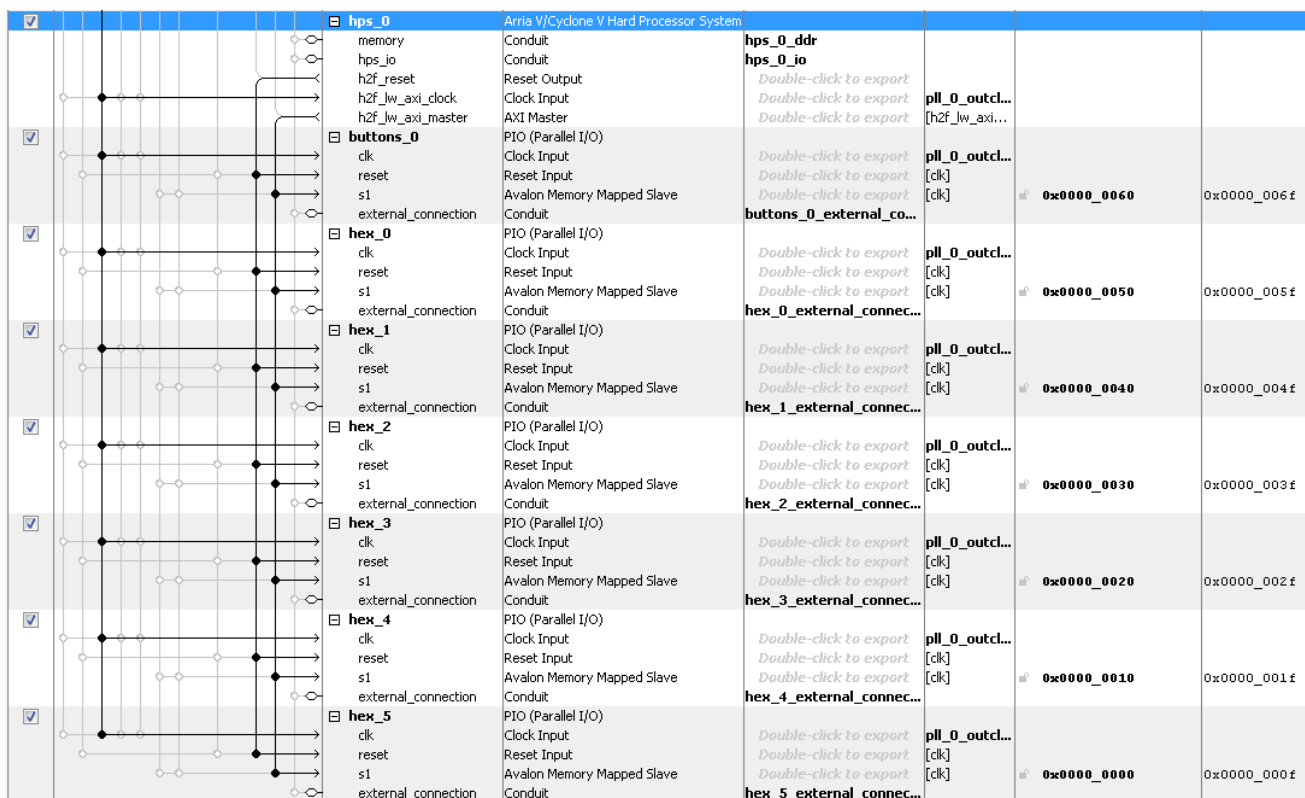

Figure 9-14. Adding Buttons and 7-segment Displays to the Lightweight HPS-to-FPGA Bridge
30. Connect the system as shown in Figure 9-14 below. Notice that we use "hps_0.h2f_reset" as the reset signal for the components connected to the HPS. This is a design choice so we can separately reset FPGA-only peripherals, and FPGA peripherals connected to the HPS.